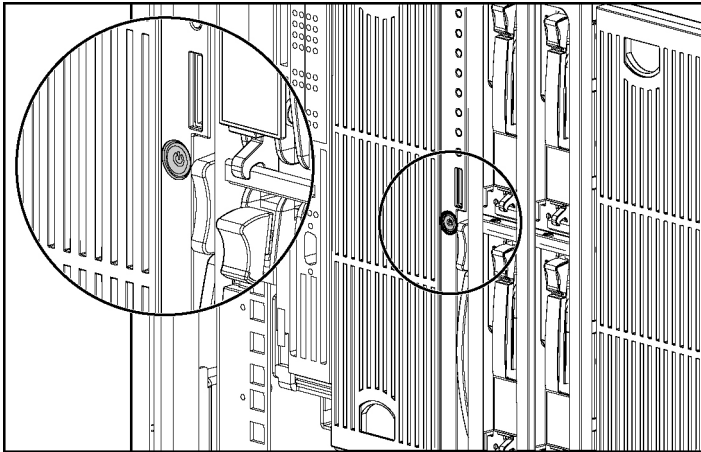

Figure E-5: Power On/Standby button
4. Change positions 1, 5, and 6 of SW3 to on. For switch locations and positions, refer to Figure E-5 in Appendix E, “LEDs and Switches.”
Use Figure E-5 to identify the button location.